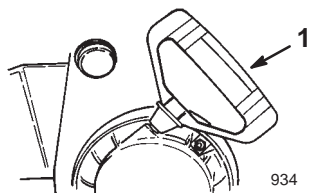

Figure 23
- **Recoil Starter** (Fig. 23)—The recoil starter is on the back side of the engine. Pull the recoil starter to start the engine.
8. Grasp the recoil starter handle (Fig. 23) and pull it out slowly until positive engagement results; then pull the handle vigorously to start the engine.